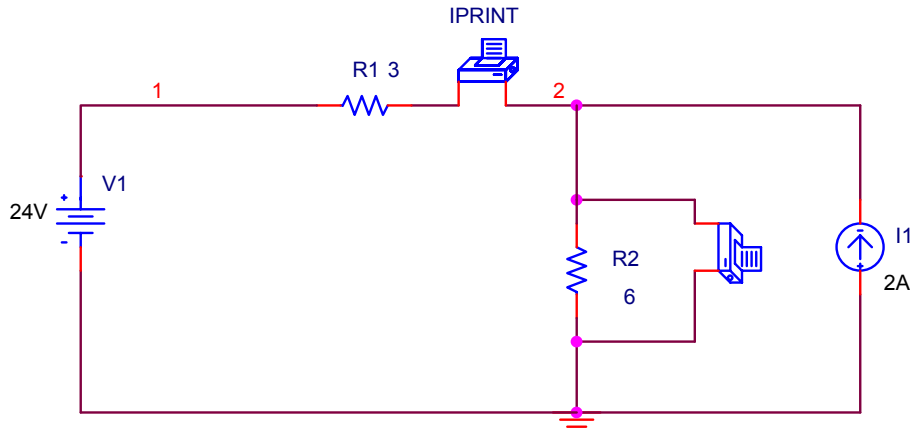

Figure 3.1 Circuit from Problem 1 with IPRINT and VPRINT2 added.
- 8) At this time the name of the sweep variable must be specified. In this case the voltage source is the sweep variable and from Figure 3.1 it can be seen that it is called V1. (It may be called something else on your schematic like V2). Type in the name V1 where it asked for the variable to sweep. Choose sweep type as “Linear”, start value of “0”, end value of “100”, and increment to be “10”. Then click “Ok”.
- 9) Since, in this example, the output across the 6-ohm resistor is desired, it is a good idea to name the nodes. The ground node should be 0 by default – if it is not 0, it can be made so by following the procedure here while in sub-step (i) the word “ground” should be substituted for the word “wire”. To name any other node proceed as follows: (i) select the wire segment associated with the node to be named; (ii) click on “Place” on the top toolbar; (iii) select “Net Alias” and (iv) enter a number (preferably) for the name of the node. In Figure 3.1, a node has been named “1” while another is named “2”.
- 11) Once this is simulated you will notice a probe graph appears in the upper section of the simulation window. Select the Trace->Add Trace menu option to specify which variable to plot. In this example, the voltage across the 6-ohm resistor is desired and choosing V(2) from the scroll-down menu and clicking “Ok” gives a plot of the output voltage V(2) versus the source voltage V1. Instead of choosing an output variable from the scroll-down list, the same result could be